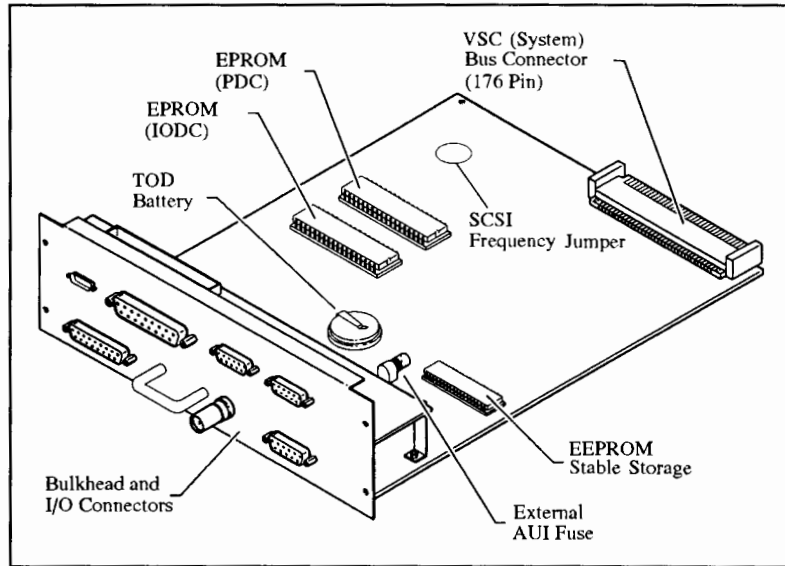

Figure 1-3. Replaceable Parts on the System (core I/O) Card
Figure 1-3 contains an illustration of the System (core I/O) card. This card contains most of the workstation/server's input/output logic controllers. Currently, there is one version of the System (core I/O) card for Model 720 systems and another for Model 730 systems. Both versions plug directly into the VSC backplane assembly to access the VSC (system) Bus signals and DC power from the power supply in the System Unit cabinet.
- Onboard SCSI frequency jumper selects the appropriate SCSI bus frequency for either the Model 720 or Model 730 operation of the System (core I/O) card. (See Figure 1-3.)